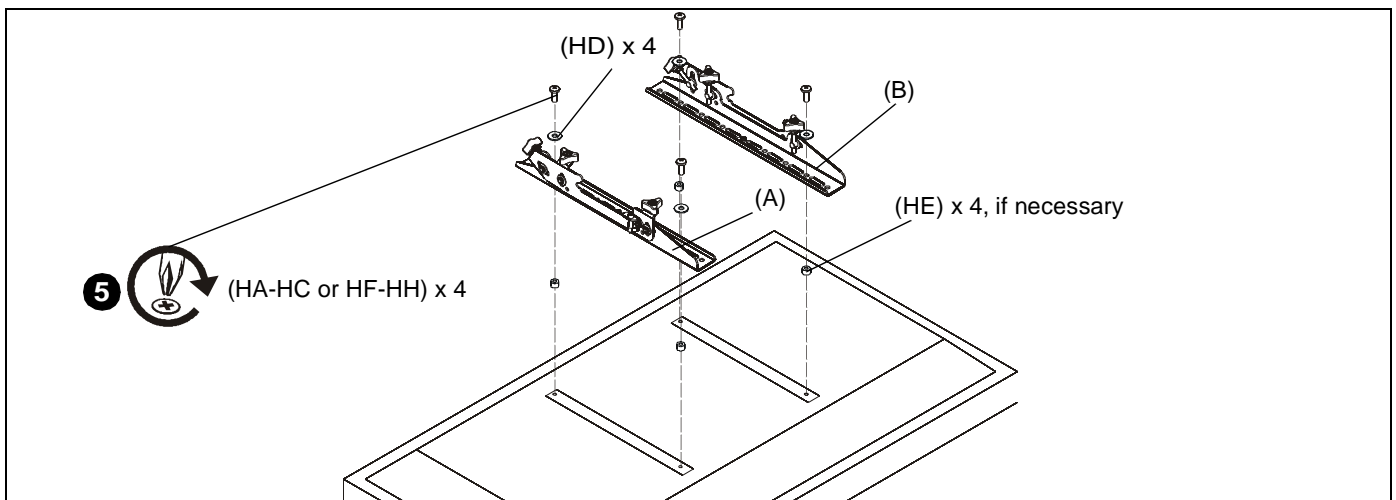

Figure 9
2. Select screw *diameter* by examining hardware (HA-HC and HF-HH) (6mm or 8mm) and comparing with mounting holes on display. (See Figure 9)
- If mounting holes are recessed, or if protrusions prevent brackets (A and B) from laying flat, then spacers (HE) must be used.
4. Select screw *length*: (See Figure 9)
- Using your hand, insert **SHORTEST** length screw of selected diameter (HA or HF) through 1/4" washer (HD), bracket (A or B), selected spacer (HE, if required), into display mounting hole. Do NOT thread screw into hole at this time.
5. Use selected screws (HA-HC or HF-HH), washers (HD) and spacers (HE), if necessary, to connect interface brackets (A and B) to back of display. Make sure diamond on interface brackets is even with center of display. (See Figure 9)